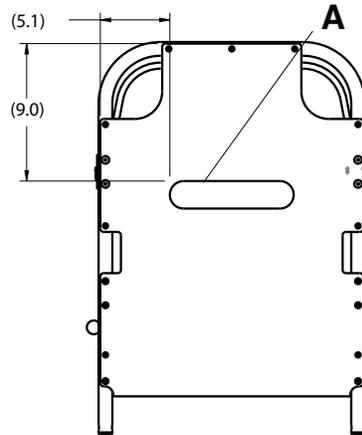

Figure 1 – Apply Velcro to the Fowler
6. Remove the backing on the Fowler **Velcro** (A) and apply the **Velcro** to the surface of the Fowler (Figure 1).